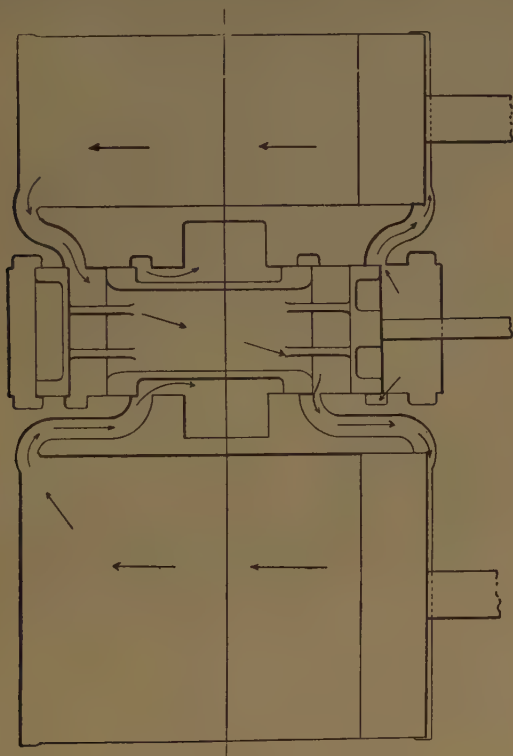
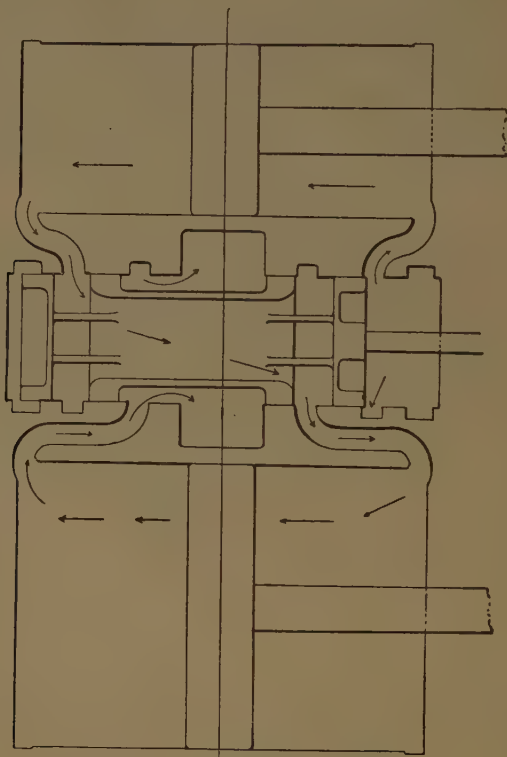
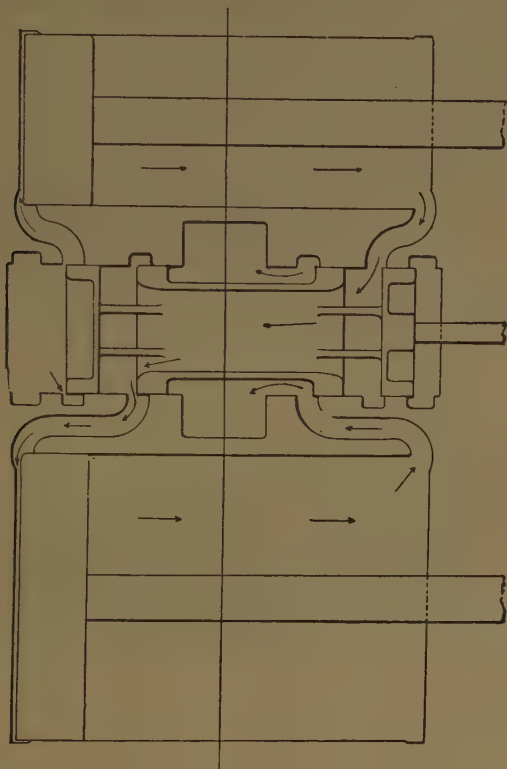

Fig. 170. Vauclain Compound.
Fig. 171. Vaclain Compound.
Fig. 172, Vaclain Compound.
A. Both pistons play together in the same direction at the same time; their position and the relative position of the valve with reference to them being shown in figures 170, 171 and 172. In figure 170, both pistons are at the crosshead end or back end of the cylinder; in figure 171, both are at mid-stroke; in figure 172, both are at front or out ends; the arrows showing the direction of the live and exhaust steam in both pistons and in the valve-chamber.